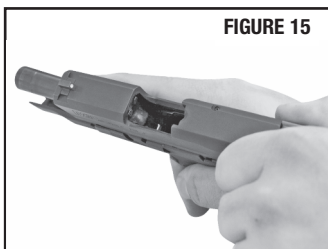

FIGURE 15
- Grasp the serrated sides of the slide from the rear and briskly pull the slide fully rearward to eject the mis-fired round (FIGURE 15). Do not obstruct the ejection port, and do not attempt to catch the round by placing your hand over the ejection port. Also, remember that any time you release the slide while a magazine containing cartridges is in the pistol, you will have reloaded the chamber.